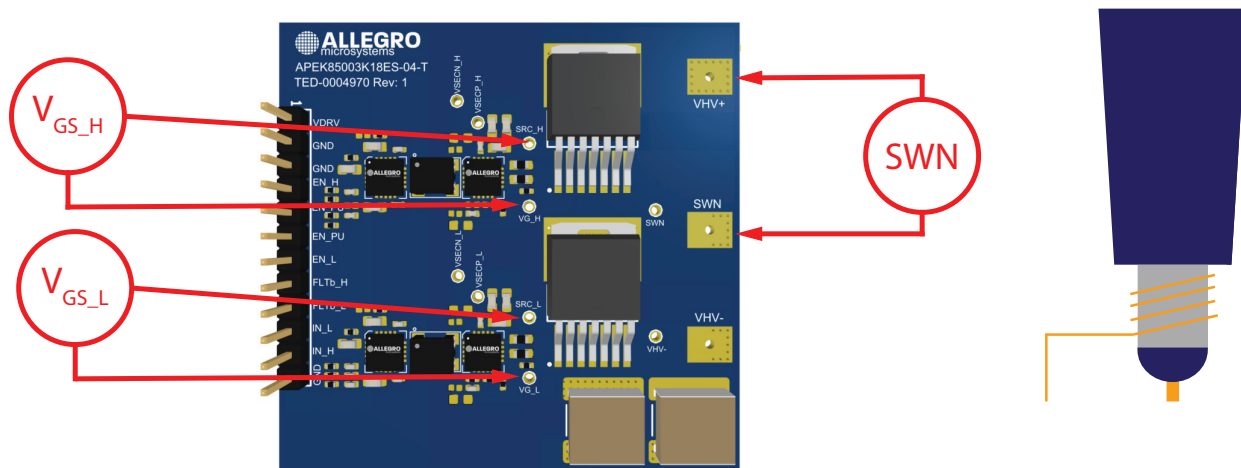

Figure 4: Measurement points
4. Convenient test points are located on the test board as shown in Figure 4 below. A suitable differential oscilloscope should be used to monitor the high side gate signal from V_{G_H} to SRC_H.
The APEK85003K18ES-04-MH evaluation board contains convenient test points for monitoring the high and low side gate drives as well as the switch node as shown in Figure 4 below.